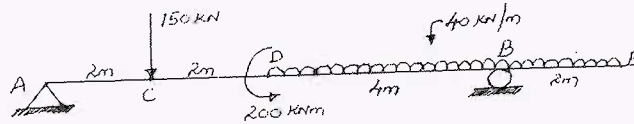

Fig. Q5 (b)
- b. Sketch SFD and BMD for the beam shown in Fig. Q5 (b) indicating salient values (including point of contraflexure, maximum -ve and maximum +ve BMS and maximum SF). (15 Marks)